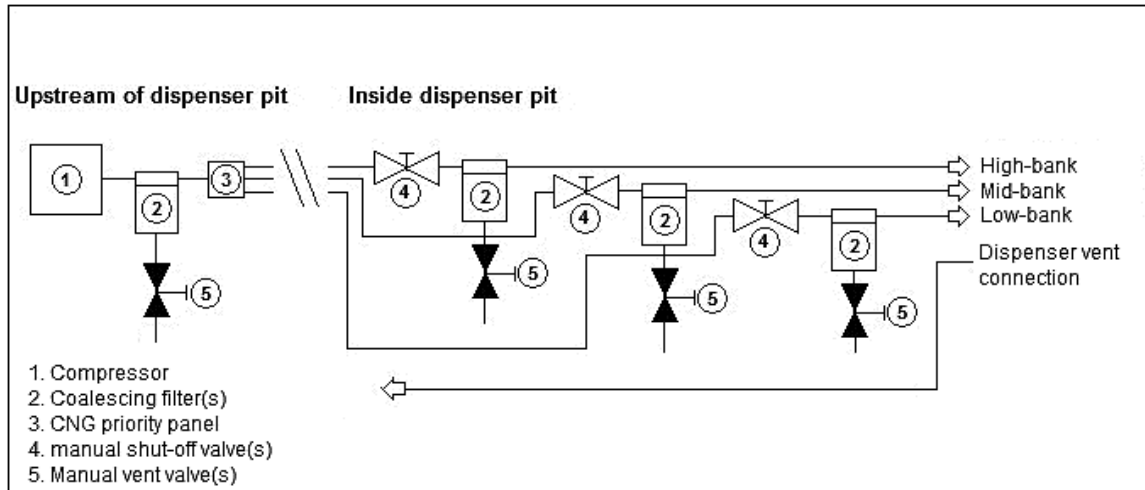
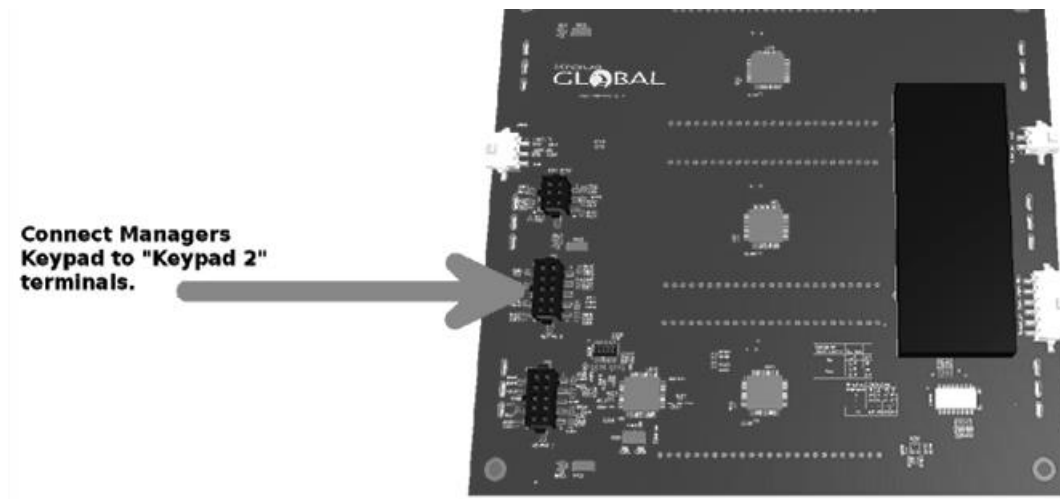

Figure 1: High-flow filter placement
Figure 2: Manager-keypad pin connector behind the dispenser display
See *Figure 1* below for high-flow filter placement options.
4. Connect the keypad to the pin connector labeled “KEYPAD 2” located directly behind the dispenser 3-line display. (see Figure 1). The arrow in *Figure 2* points to the position of the pin connector on the back of the dispenser display.